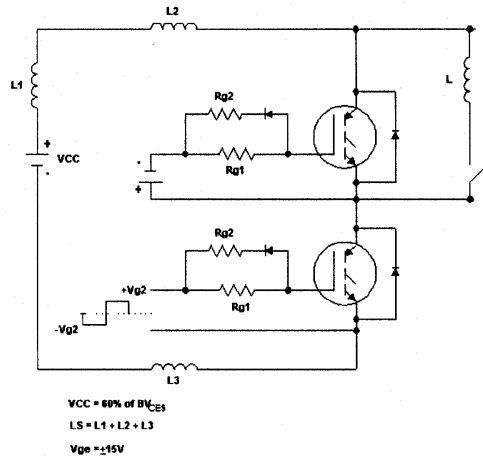

Fig. 17 - Test Circuit for Measurement of I_{LM} , E_{on} , $E_{off}(\text{diode})$, t_{rr} , Q_{rr} , I_{rr} , $t_{d(on)}$, t_r , $t_{d(off)}$, t_f
- ① Repetitive rating; $V_{GE} = 20V$, pulse width limited by max. junction temperature.
- ② See fig. 17
- ③ For screws M5x0.8
- ④ Pulse width 80 μs ; single shot.